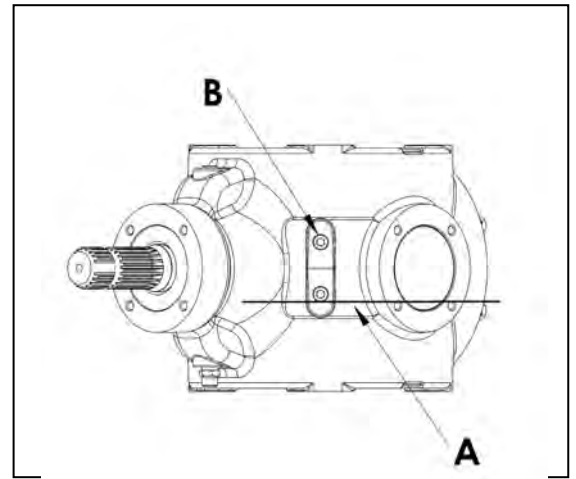

Figure 11-2: Gearbox Oil Level
Gearbox oil levels should be checked routinely and filled to line (A) shown in Figure 11-2.